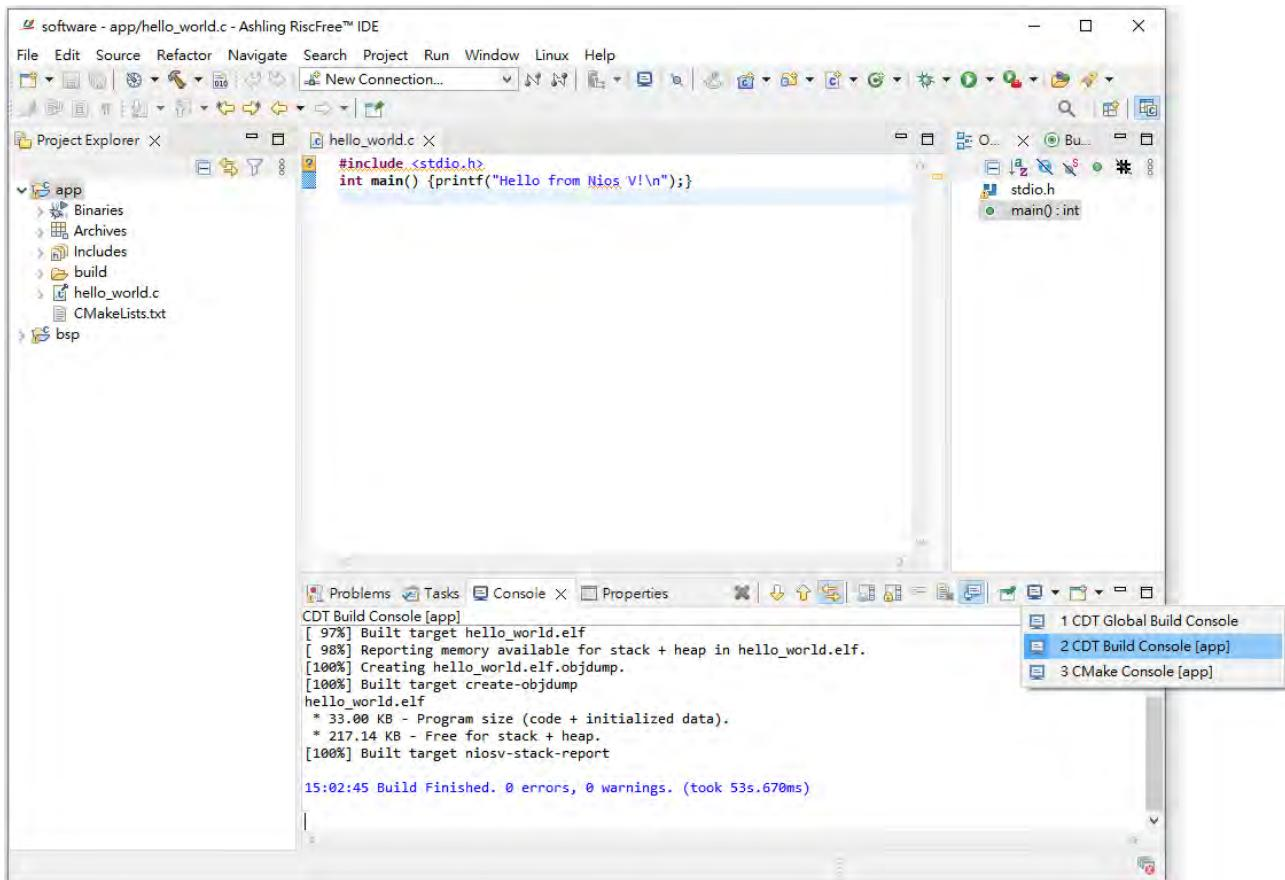

Figure 3-18 Ashling RiscFree IDE app Build Completed
3. When the compilation is complete, a **Build Finished** message will appear in the **CDT Build Console**. The compilation time will vary depending on your system. Refer to Figure 3-18 for an example.